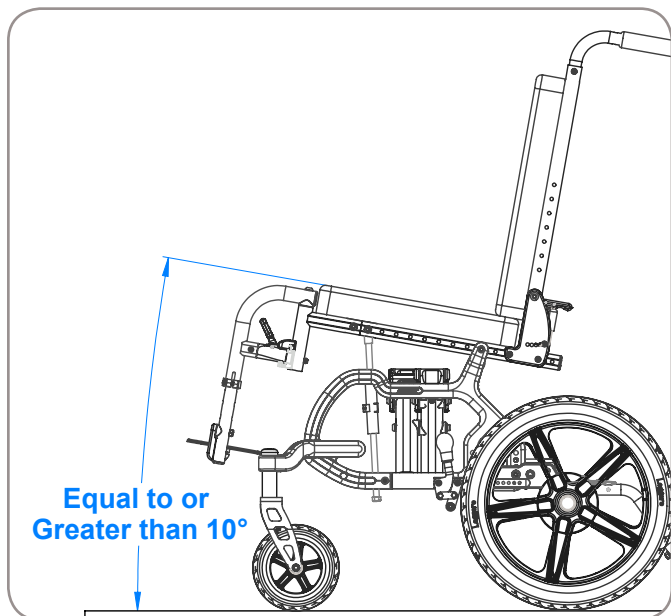

Figure 39
3. For caregiver assisted movement, do not adjust the angle of the seat below 10° posterior. Reference Figure 39.